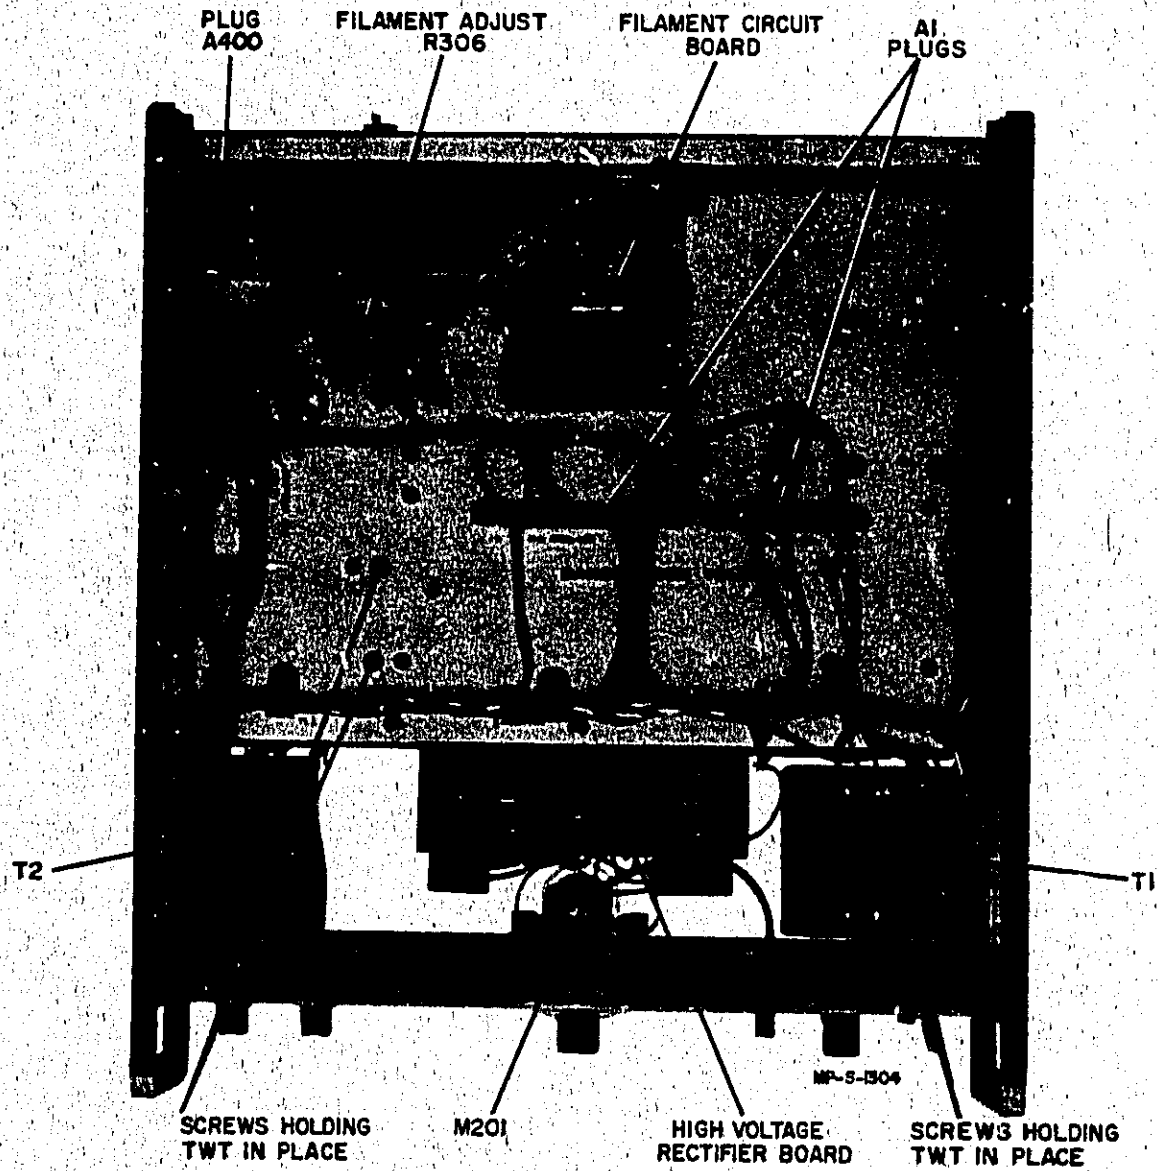

Figure 5-4. © Model 493A Bottom View
- h. Place instrument on its side and remove four screws holding twt to main deck (see Figure 5-4).